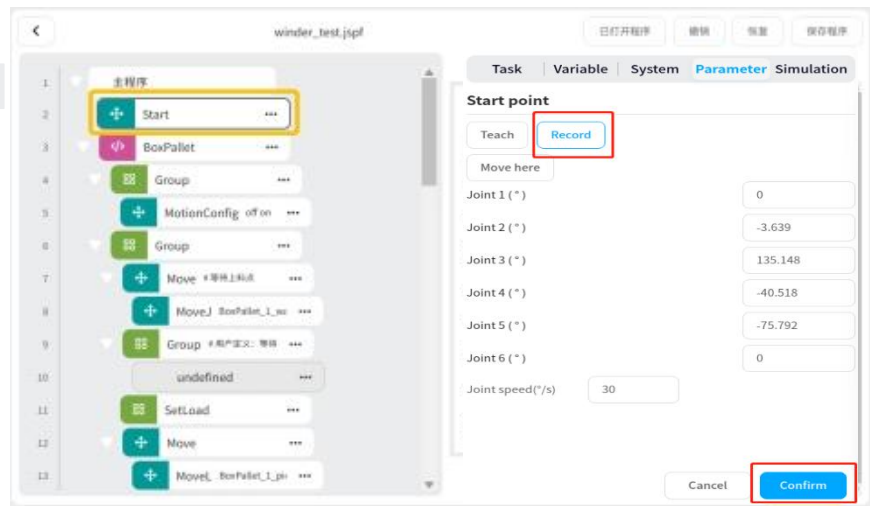

Figure 38
1、 Set parameters of the “Start” module, as shown in Figure 38.